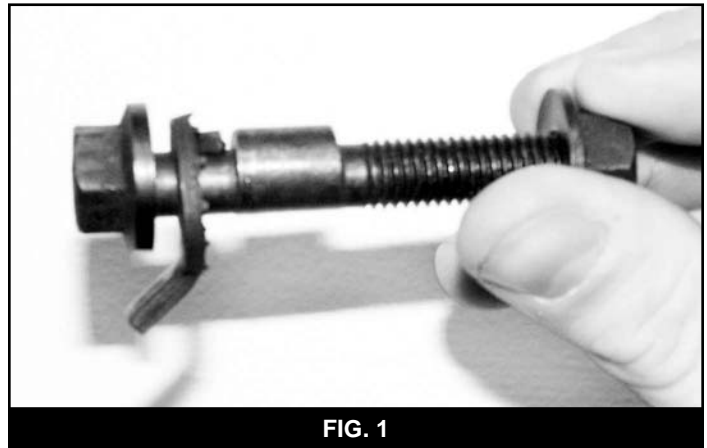

FIG. 1
3. Remove the nut retaining the sway bar end link to the strut and remove the link from the strut (Fig 1). **Note: Will be reattached after installation is completed on both sides of the vehicle.**